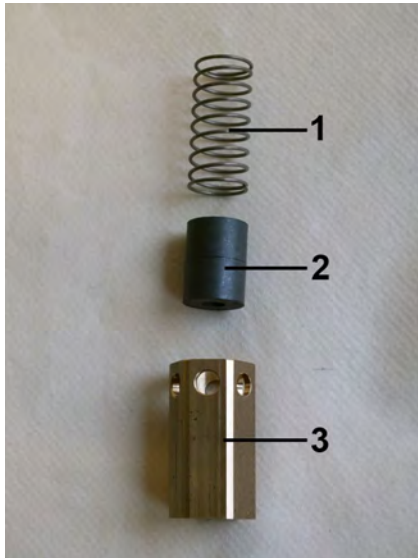

Fig. 29: Spring, magnets and float
4.  The inner parts of the flow monitor consist of the spring (Fig. 29/1), magnets (Fig. 29/2) and float(Fig. 29/3).